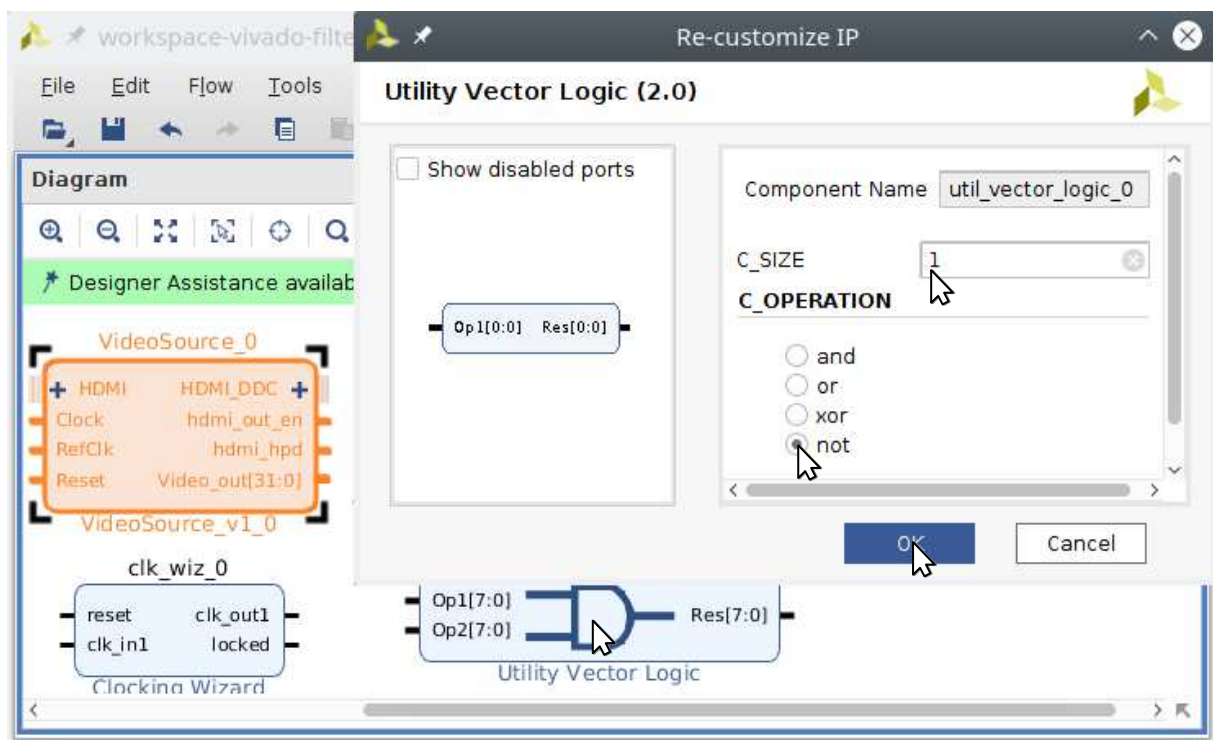

Figure 30: Re-customized "Utility Vector Logic" IPB to be a one bit inverter
- o) Thus, double click on the “Utility Vector Logic” IPB to bring up its customization dialog as shown in Figure 30. Change **C_SIZE** to “1” and **C_OPERATION** to “not” to change the “Utility Vector Logic” IPB to be a one bit inverter.